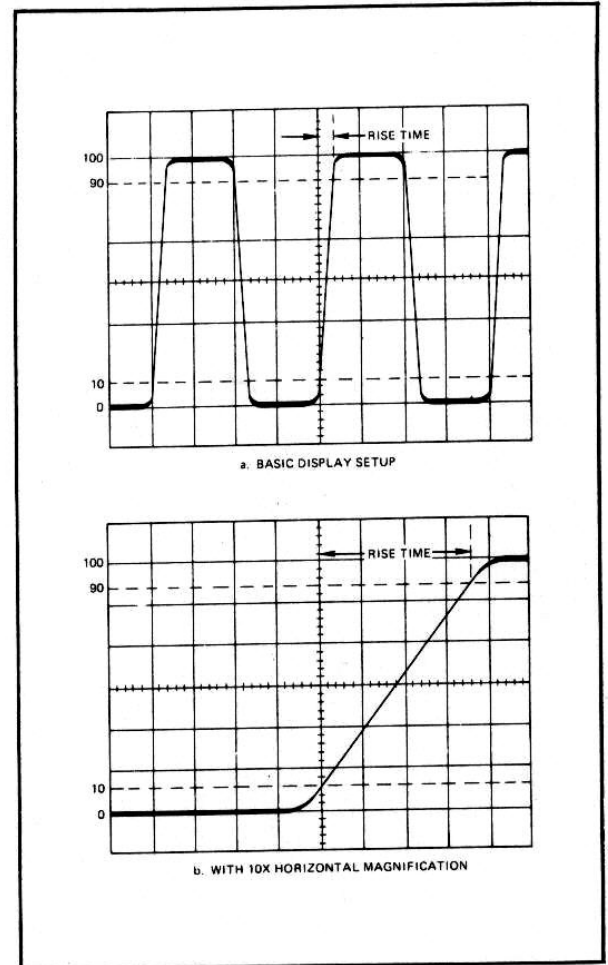

Figure 2-23.
1. Connect the pulse to be measured to the CH- 1 IN connector (14) and set the AC/GND/DC switch (16) to AC.
2. Adjust the A TIME/DIV switch (24) to display about 2 cycles of the pulse. Make certain the associated VARIABLE control (11) is rotated fully clockwise and de-tented in its CAL'D position.
3. Center the pulse vertically with the channel 1 vertical POSITION control (17).
4. Adjust the channel 1 VOLTS/DIV switch (10) to make the positive pulse peak exceed the 100% graticule line, and the negative pulse peak exceed the 0% line, then rotate the VARIABLE control (11) counterclockwise until the positive and negative pulse peaks rest exactly on the 100% and 0% graticule lines. (See Figure 2-23).
5. Use the horizontal POSITION (29) and X-FINE (30) controls to shift the trace so the leading edge passes through the intersection of the 10% and central vertical graticule lines.
8. Multiply the number of divisions counted in Step 7 by the setting of the A TIME/DIV switch to find the measured risetime. If X10 magnification was used, divide the TIME/DIV setting by 10. For example, if the A timebase setting in Figure 2-23 was $.1/\mu$ S (100 η S), the risetime would be 36 nanoseconds (100η S \div 10 = 10 η S; 10 η S x 3.6 div = 36 η S).